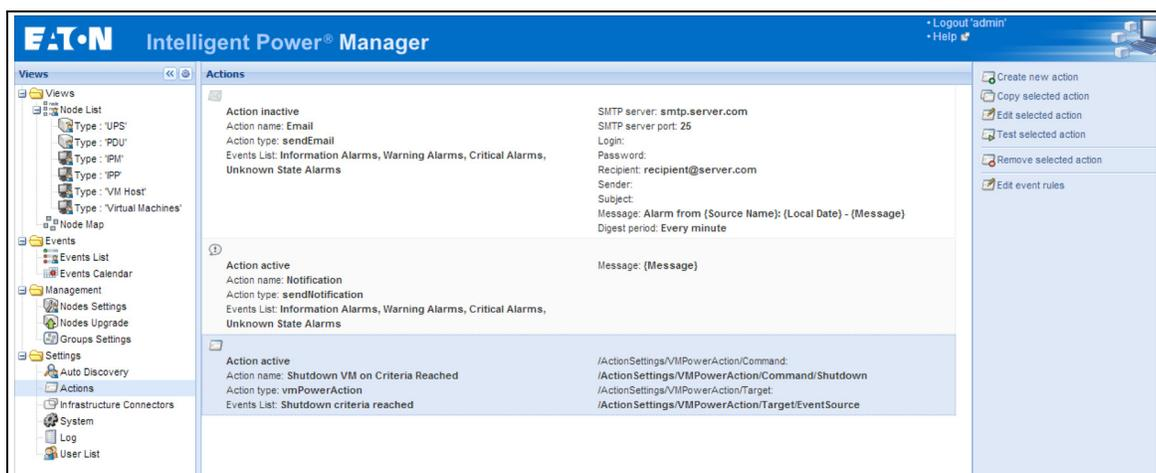

Figure 187. Actions
9. Click Create a new action in the right panel (see Figure 187).